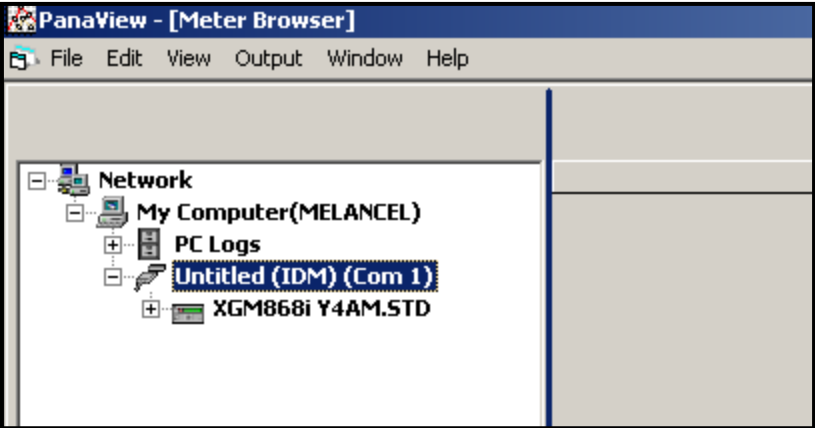

Figure 37: Updated Network Tree
If the initialization is successful, the Meter Browser shows a listing similar to Figure 37.
1. From the meter tree in the *New Meter Browser* (see Figure 37 on page 85), click on the XGM entry. The screen now appears similar to Figure 39.